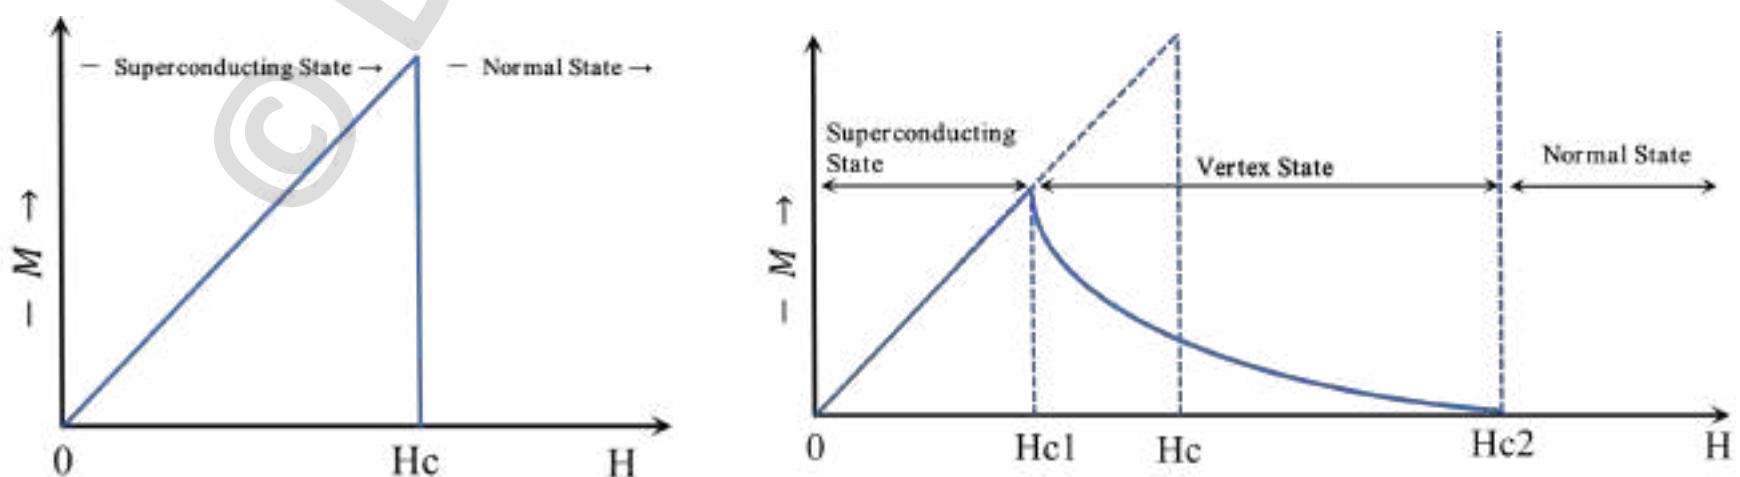

Fig. 11: a) Type I Superconductor b) Type II Superconductor
- The transition from superconducting state to normal state in presence of magnetic field occurs sharply at critical field H_c as shown in Fig. 11 (a).
- If the value of external magnetic field is increased above upper magnetic field (H_{c2}), they lose their superconductivity as shown in Fig. 11(b).